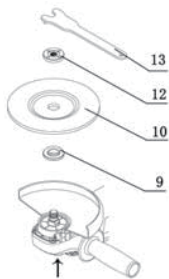
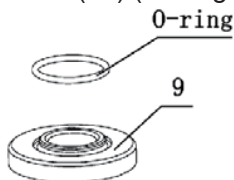

Fig. 3
Fig. 4
3) Fitting the grinding disc or cutting disc: (Fig. 3 and Fig. 4)
A. Place the inner flange (9) over the spindle making sure the fit is tight;